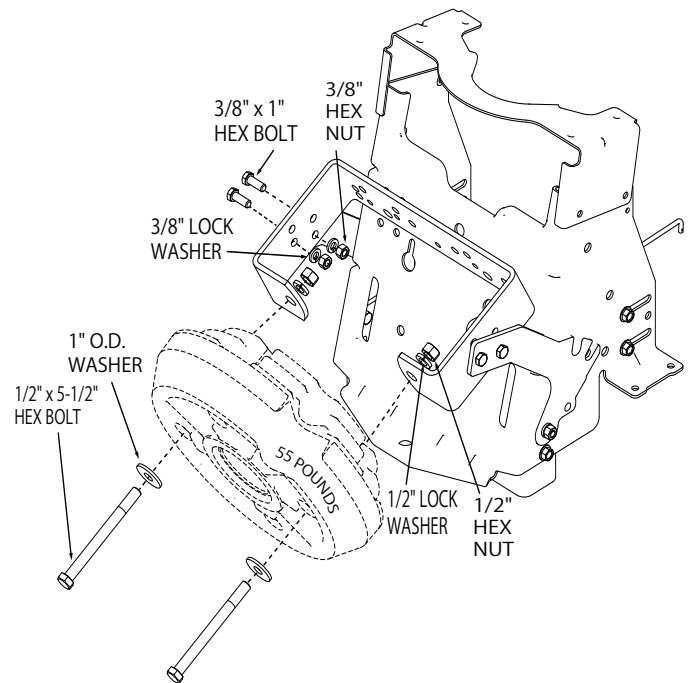

FIGURE 8
4. Secure weight bracket (1) to weight bracket arms (2) using four 3/8"-16 x 1" hex bolts (3), 3/8" lock washers (9) and 3/8-16 hex nuts (11). See figure 8.
5. Secure wheel weight to weight bracket (1) using two 1/2" x 5-1/2" hex bolts (14), 1" O.D. washers (5), 1/2" lock washers (8) and 1/2"-13 hex nuts (10). Tighten securely. See figure 8.